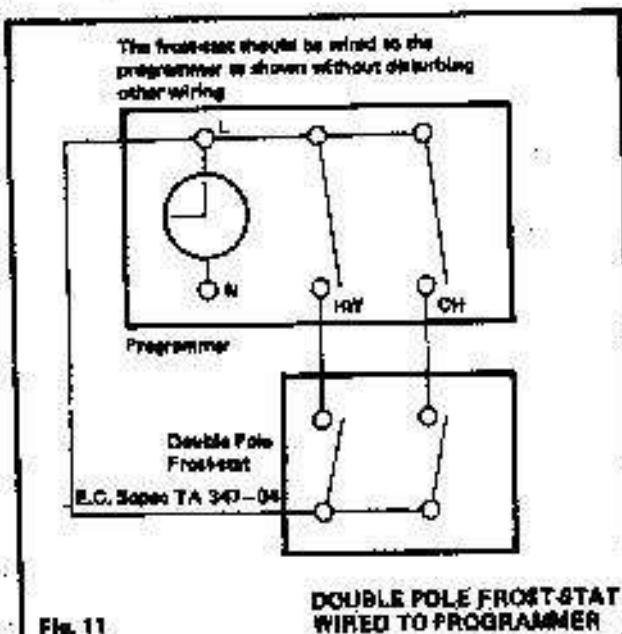

Fig. 11
- Controls that over-ride an ON/OFF control (e.g. a frost thermostat) MUST be wired into the mains lead in parallel with the control(s) to be over-ridden (see Fig. 11).